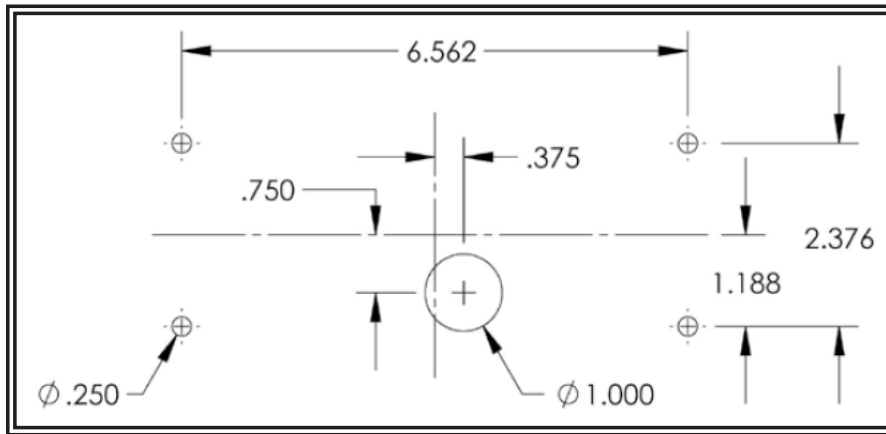

Figure 2
Carefully remove the light head from its protective packaging. Inspect the unit for transit damage. Report any damage to the carrier and keep the shipping carton. Verify the contents of the package (refer to Table 3 and Figures 2 and 3). Test the lights before installation. To test, touch the black wire to ground and the red wire to 12 VDC. If a problem occurs, contact the factory.
Step 5. Route the power wires through the center opening of the light gasket or bezel and bezel gasket (refer to Figures 2 and 3). Connect light head red (+12VDC) power wires and Black ground wires to the vehicle power system. Seal or cap the end of the white wire and other unused wires to prevent inadvertent changes to the flash pattern or unexpected operation of the device.